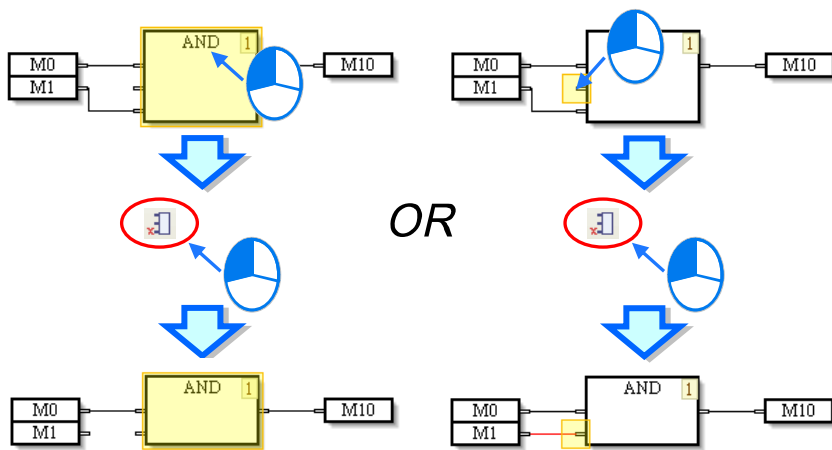

Figure 12-17 Deleting an input pin
(5) If the users click a logic gate, and then click  on the PMSOft toolbar, the input pin at the bottom of the logic gate will be deleted. If the users select an input pin, and then click , the input pin will be deleted. Please see figure 12-17.